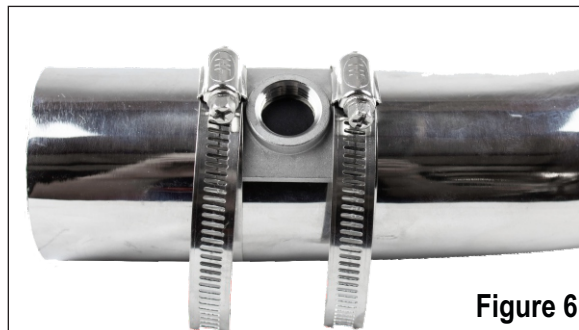

Figure 6
G. The supplied bung kit can either be welded in place or clamped onto the pipe, see figure 6. The clamp-on style works well and will not leak. If welded, make sure the bung is welded completely all the way around and does not leak. Place the gasket on the tube, then the casting on the tube. Slip a clamp on one side and lightly tighten. Slip the second clamp on and lightly tighten on the opposing side. It is necessary to use a small amount of anti-seize on the threads of the T bolt clamps to prevent thread damage.